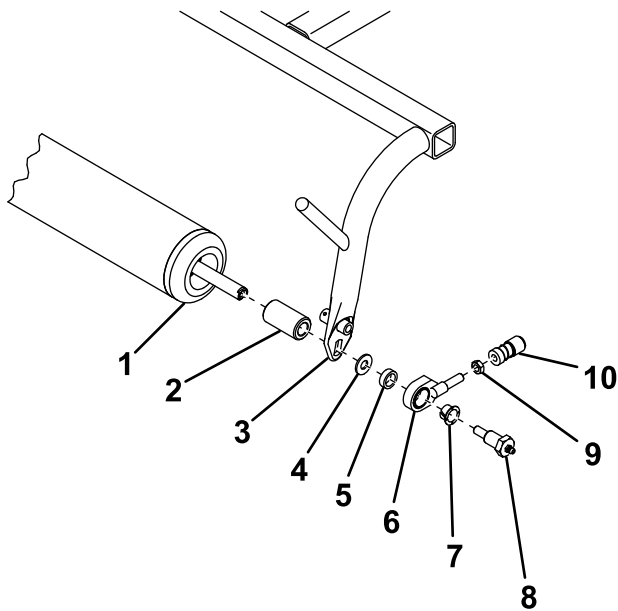

Figure 4
6. Slide a frame spacer onto each end of the roller (Figure 4).
7. Secure the roller to the pull frame as shown in Figure 4.
(Figure 4). Do not tighten the jam nut at this time.